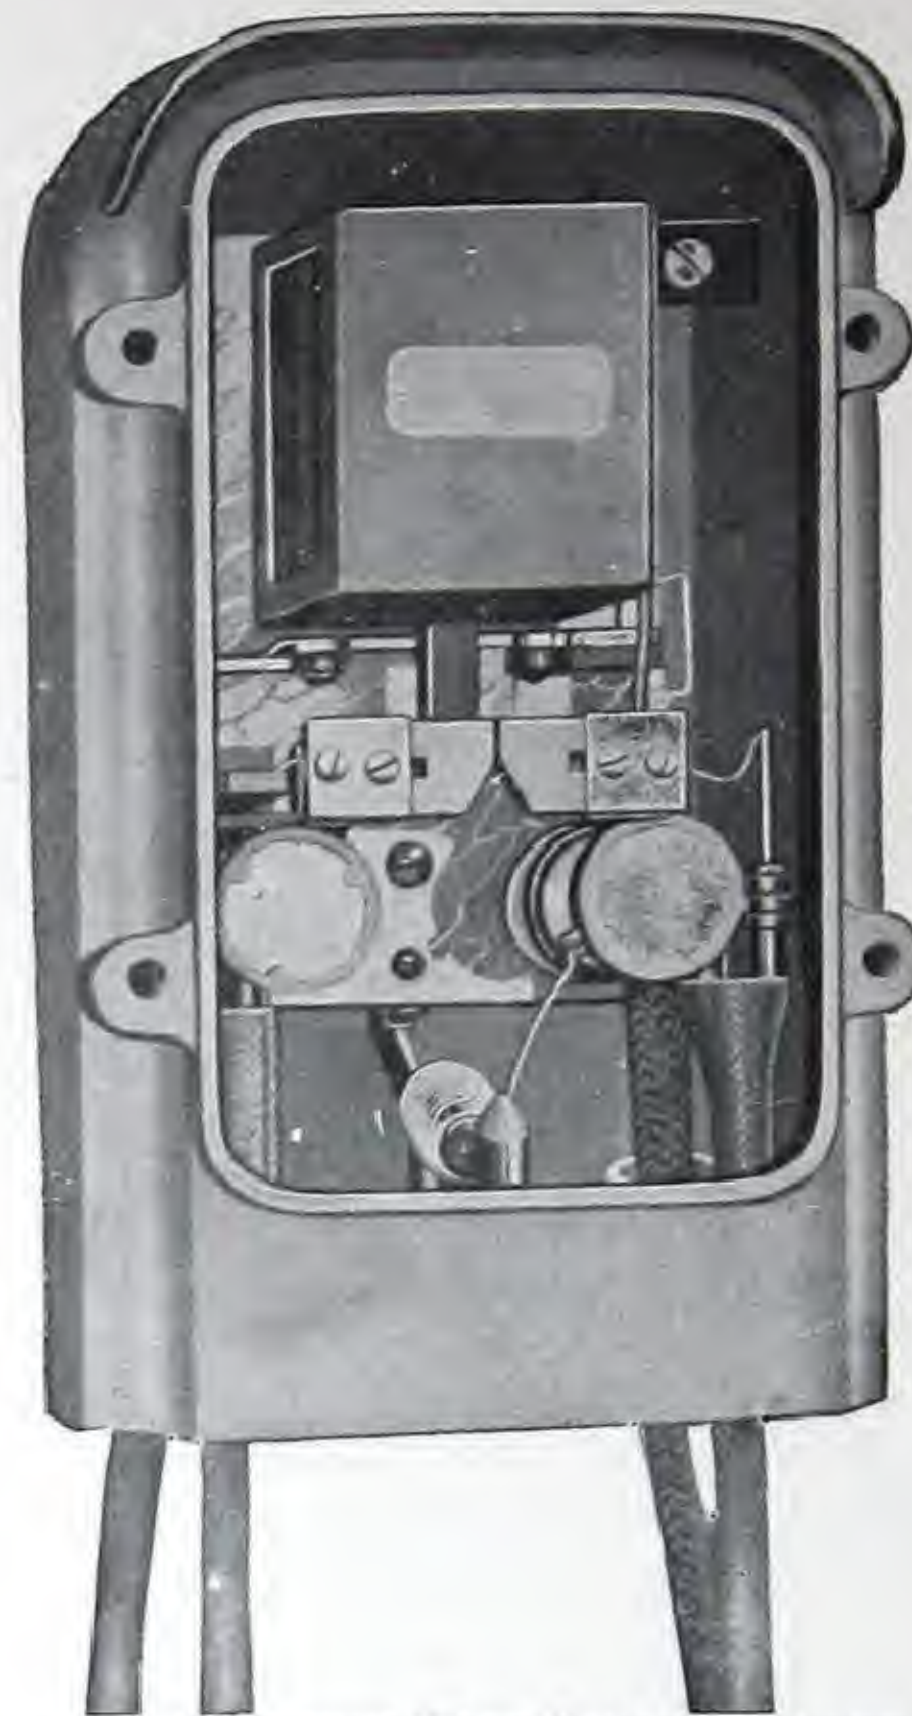

FIG. 2—CUTOUT WITH COVER REMOVED
**Construction**—As shown in Fig. 1, the apparatus is enclosed in a case so designed as to withstand all weather conditions, as well as to prevent the entrance of dust and insects. Hangers are furnished for mounting the case on a pole like a transformer. Fig. 2 shows a front view of the apparatus with cover removed. Ample air space is left between all parts of the device and the inside surface of the case, thus preventing the grounding of the enclosed apparatus if from any cause the case itself should become grounded.